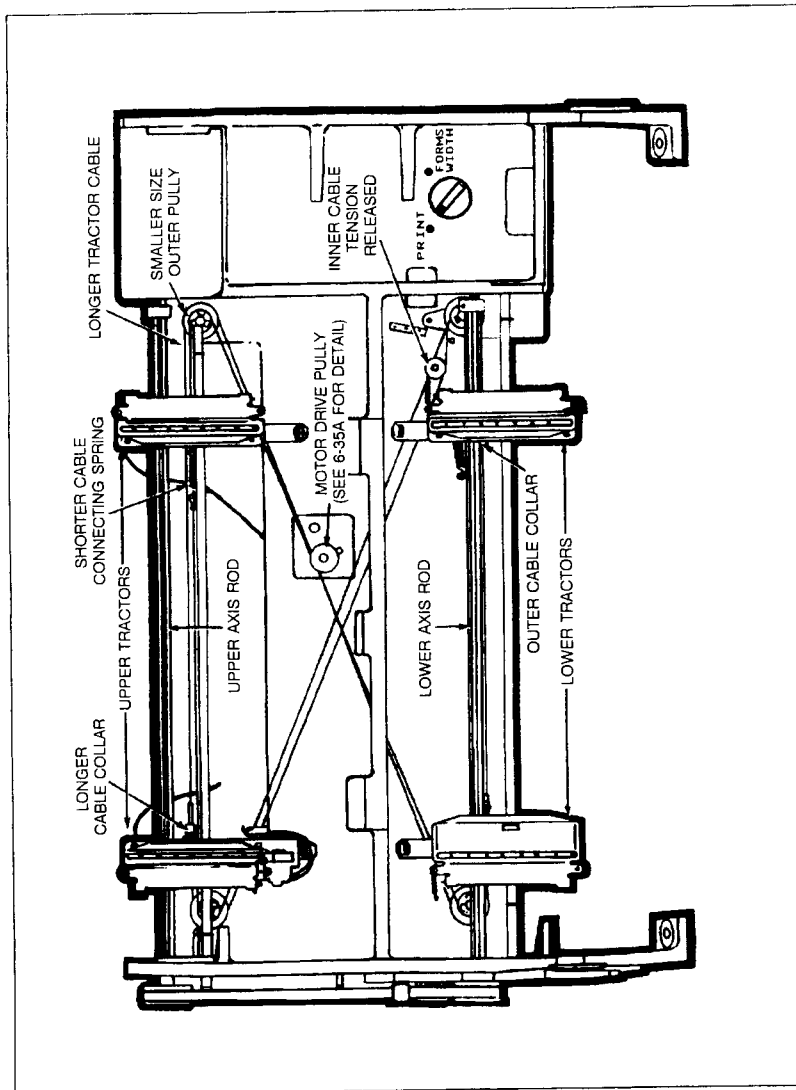
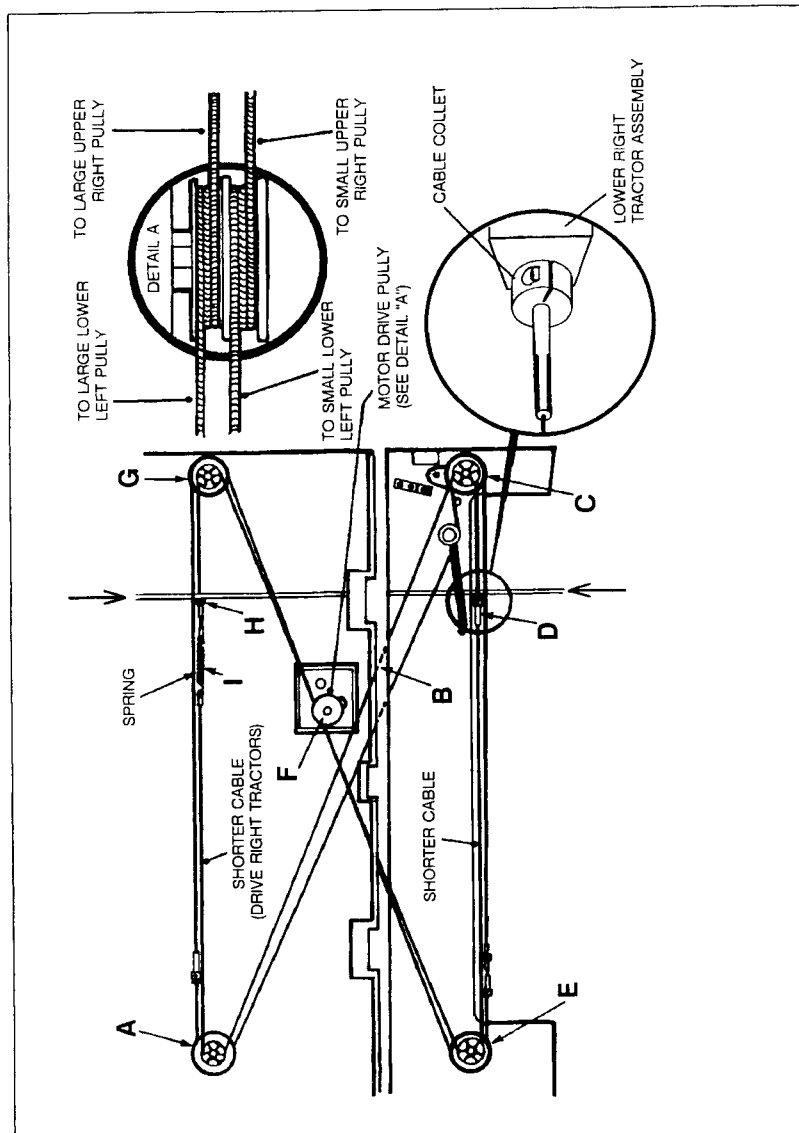

Figure 6-34. Tractor Drive Cabling System
Figure 6-35a. Shorter Right Tractor Drive Cable Removal
The tractor alignment cabling system provides a means for horizontal positioning and alignment of the paper tractors. There are two separate cables routed along the same path. The longer cable (riding over the larger diameter pulleys) drives the left, upper and lower, tractors. The shorter length cable (riding in the smaller diameter pulleys) drives the two right, upper and lower, tractors. Figure 6-34 shows an overview of the tractor drive cabling system.
The shorter cable of the pair, routed through the smaller diameter pulleys, drives the upper and lower RIGHT tractors. Before removal, study the cable path **CAREFULLY** and, if necessary, make any notes that may help in replacement (Figures 6-34 and 6-35a should help).
- d. On both the upper and lower RIGHT tractors, manually move the tractors so that its cable will slide through the notch in the AVB (see Figures 6-35a and 6-35b).
- e. Remove the spring connecting both cable eyeloops directly to the left of the upper RIGHT tractor (see Figures 6-35a and 6-35b).
The longer cable of the pair, routed through the larger diameter pulleys, drives the upper and lower LEFT tractors. Before removal, study the cable path **CAREFULLY** and, if necessary, make any notes that may help in replacement (Figures 6-34, 6-37a and 6-37b should help).
- f. Wrap the cable two times, clockwise, around the lower motor pulley (see Figure 6-35a, "Detail A").
- k. Insert the threaded collar through the left side of the left tractor bracket and secure with the split nut. It should be finger tight with the split nut clamp screw accessible from the front. Center the tractors on the brass yokes, align the two tractors vertically and tighten the clamp screws for the lower left tractor. Leave the 3/32" split collar screw finger tight on the upper left tractor (see Figures 6-35a and 6-35b). If you are replacing both cables skip steps "l" to "q" and proceed to the Right Tractor Drive Cable Replacement following. Otherwise, perform steps "l" to "q".
When replacing the cable, be careful to thread it along the same path that it originally followed (refer to Figures 6-35a and 6-35b). Be certain that the new cable follows the correct path and is not crossed with the other cable, hung around clips, etc. Replace as follows:
- a. Start with the end that has a greater length of free cable between the cable end and the brass cable barrel. Tape the cable end to the frame. Route the cable around the smaller diameter upper left pulley (see Figure 6-35a, "A").
- b. Route the cable through the slot in the casting located at "B" in Figure 6-35a.
- c. Wrap the cable around the top of the smaller diameter lower right pulley (see Figure 6-35a, "C") and across to the lower left pulley. Assure the split nut and split collar are in the general vicinity of the brass cable barrel for the lower right tractor.
- d. Wrap around the bottom of the smaller diameter lower left pulley (see Figure 6-35a, "D") and then up through the slot in the casting to the motor pulley. Note, the cable must be strung over itself where it crosses itself (just before the motor pulley), otherwise it will rub.
- e. Wind the cable two times, clockwise, around the outer pulley on the motor drive shaft (see Figure 6-35a, details "F" and "A").
- f. From the motor pulley route the cable around the bottom of the smaller diameter upper right pulley. (see Figure 6-35a, "G").
- h. Reinstall the tensioning spring (see Figure 6-35a, "I"). See figure 6-34. When replacing the cables, it is strongly recommended that the spring be replaced. Tractor Cable Spring P/N 1460-0648.
- i. Insert the split nut through the right side of the tractor AVB and secure with the split collar. Position the lower right tractor in the center of the brass barrel and tighten the 3/32" Allen screw in the split collar. Leave the upper right tractor split collar loose for the tractor position adjustment (see Figures 6-35a and 6-35b).